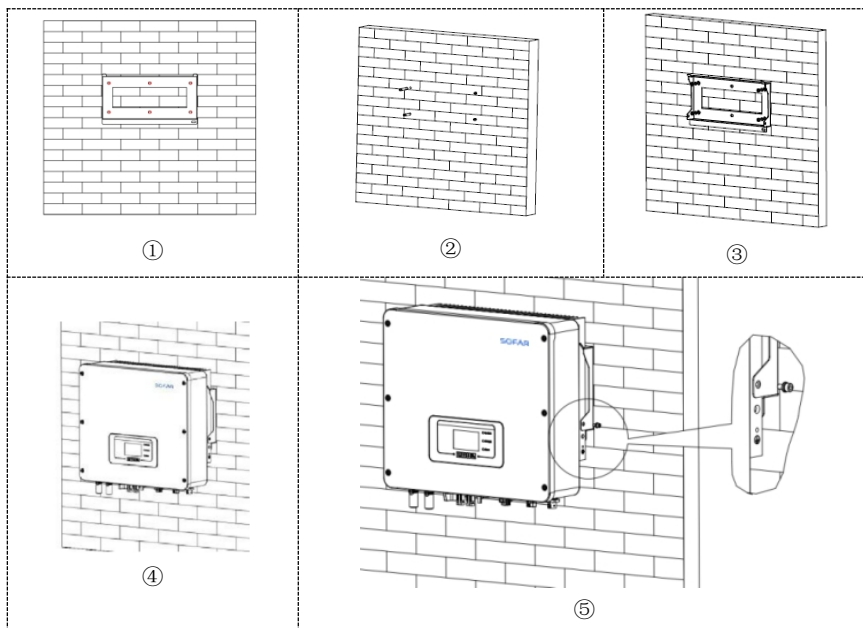

Fig.3-5 Installing HYD 3000/3680/4000/4600/5000/5500/6000-EP
Step 1 Determine the positions for drilling holes, ensure the hole positions are level, then mark the hole positions using a marker pen, use the hammer drill to drill holes on the wall (Aperture $\Phi 10$ mm). When drilling, keep the impact drill perpendicular to the wall and drill slightly deeper than the length of the expansion pipe. After drilling, please check whether the hole position is suitable with the back plate. If the error is too large, please reposition the hole, as shown in Figure 3-5①.
Step 2 Slowly hammer the expansion screw into the drilled hole, as shown in Figure 3-5②.
Step 3 Position the back plate well, place the shrapnel and flat pad, and fix the back plate with hexagon nut, as shown in Figure 3-5③.
Step 4 Hang the inverter on the back plate and lock the inverter and the back plate with M6 hex screw, as shown in Figure 3-5④.
in Figure 3-5⑤.